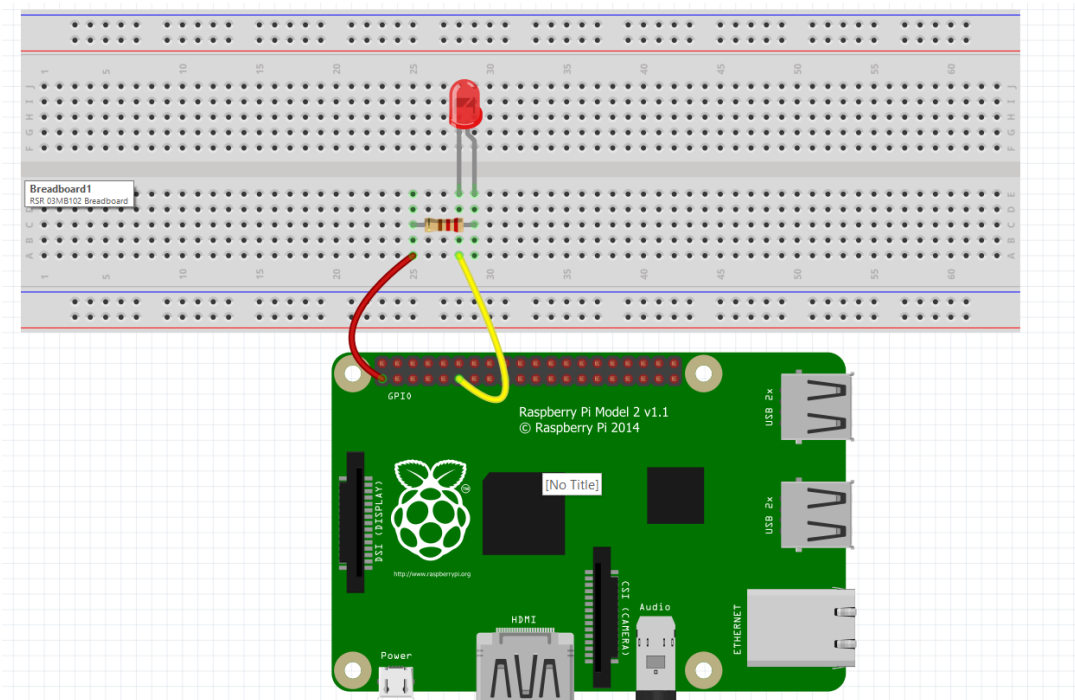

Figure 4: LED blink hardware schematic.
1. Connect the **LED**, as shown in Figure 4.